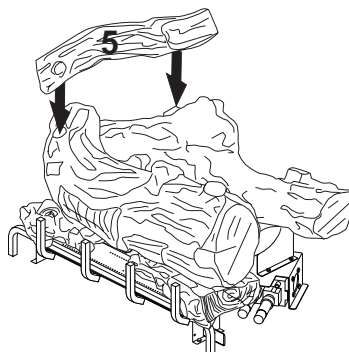

Figure 33 - Installing Log #5
5. Place top left log (#5) onto rear log (#1) and front log (#3). Match round peg on bottom of top left log (#5) with round hole in front log (#3) and square hole in log #5 with square peg on log #1 (see Figure 33).